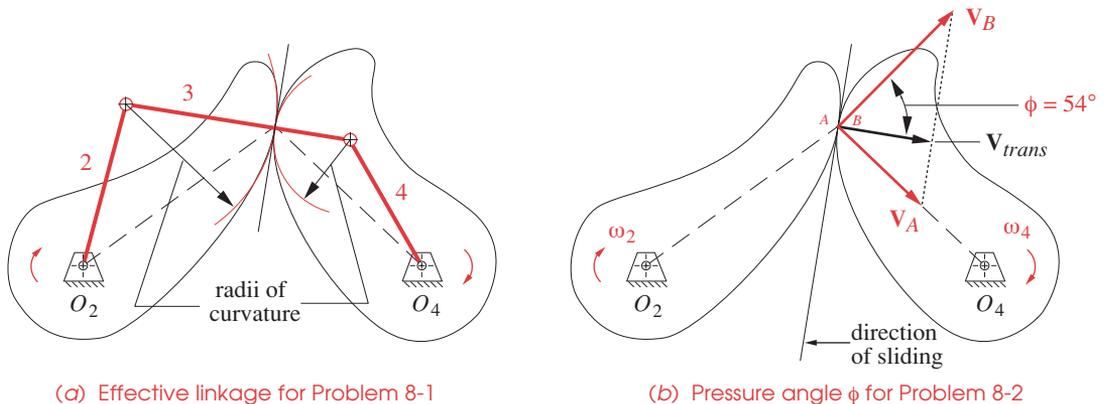

FIGURE S8-1
- 8-1 See Figure S8-1.
8-2 See Figure S8-1.